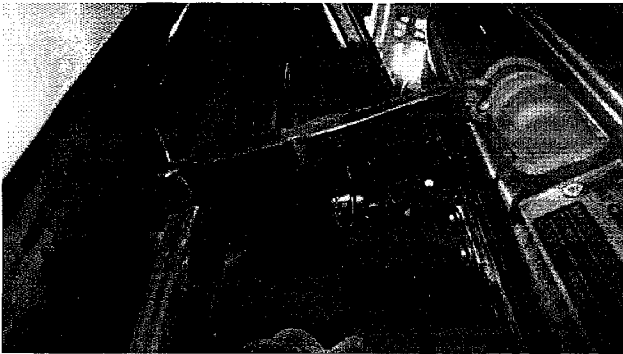

Figure 2
If the vehicle is not already listed as repaired in the "Repair history" (in Elsa Pro), check for the campaign identification mark which is a yellow paint mark on the underside of the left hand upper door hinge (Figure 2) if the paint mark is not evident please carry out the required work in accordance with these instructions.
2. Place a yellow paint completion mark on the underside of the left hand upper door hinge (Figure 2)
The fitment of the service handbook addendum and the yellow paint mark on the underside of the left hand upper door hinge (Figure 2) confirms campaign completion